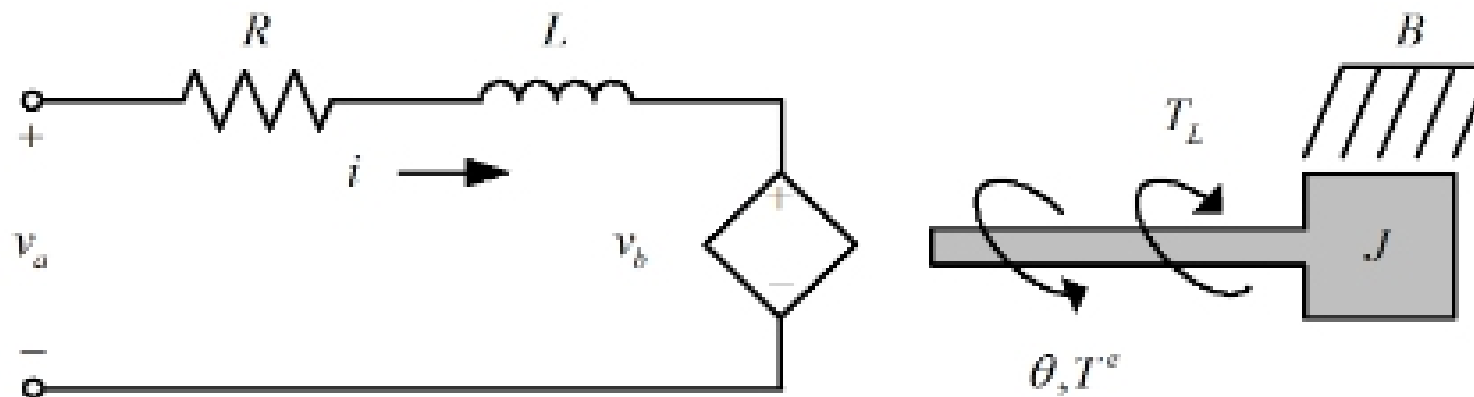
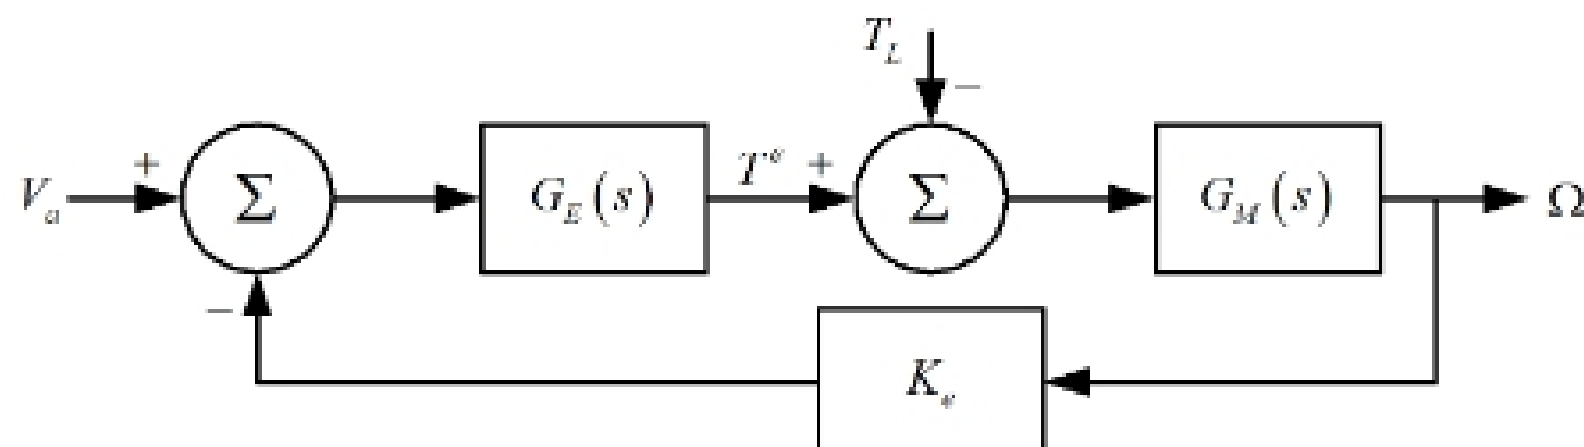

Figure 1: DC motor armature circuit and free body diagram.
Figure 2: DC motor block diagram.
Figure 1 shows the armature circuit and free body diagram for the DC motor discussed in Lecture 2. Table 1 defines the variables and parameters, and provides the numeric values for the DC motor used in the Quanser modular servo system. Figure 2 shows the block diagram representation of the DC motor, where the transfer function of the
is adsorbed by the dependent voltage source in Figure 1, and converted to an instantaneous mechanical power
2. (15 points) In Lecture 2 we used the block diagram representation in Figure 2 to obtain the transfer functions